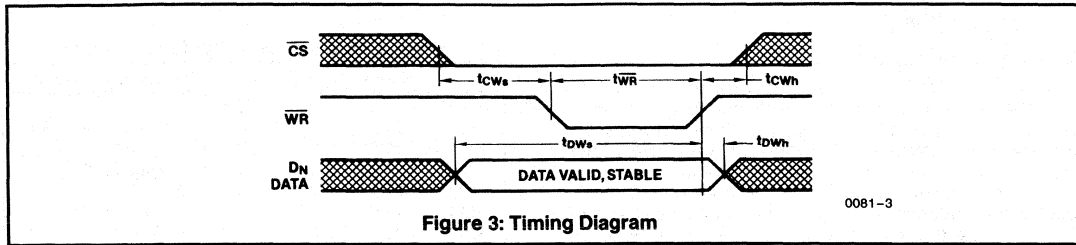

Figure 3: Timing Diagram
**SWITCHING CHARACTERISTICS** V+ = +5V, TA = +25°C; see Timing Diagram, Figure 3 (Note 4)